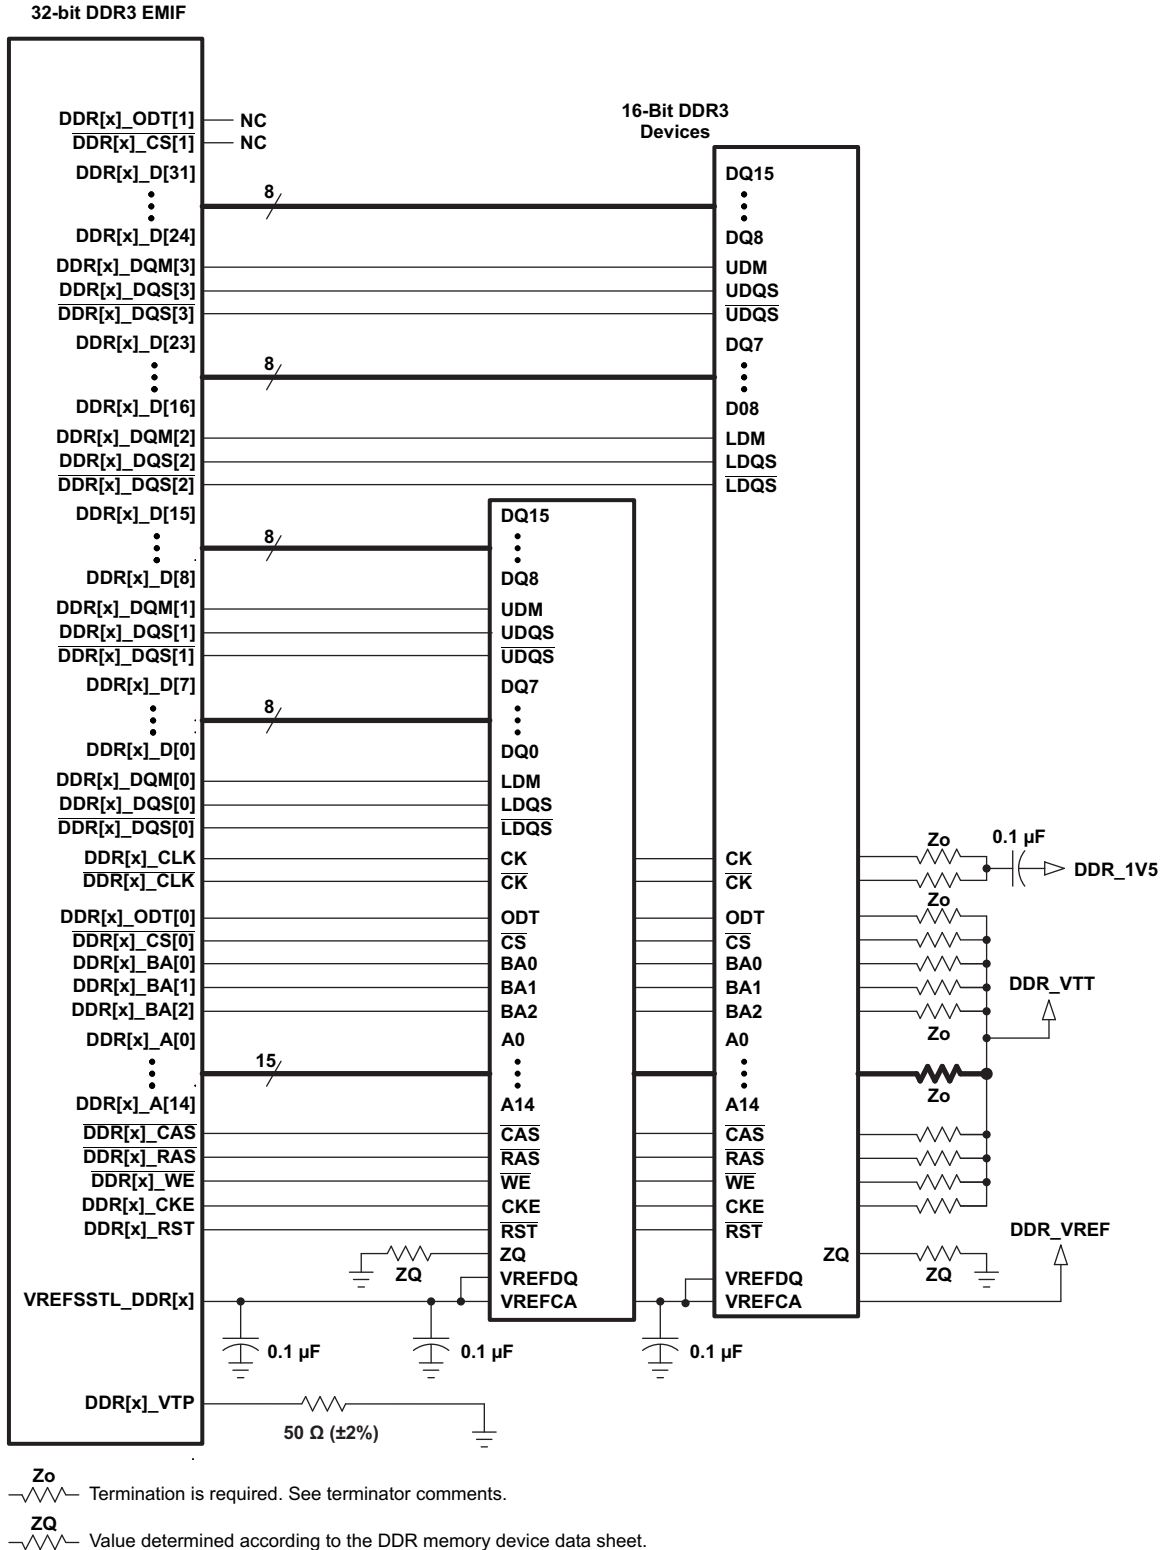
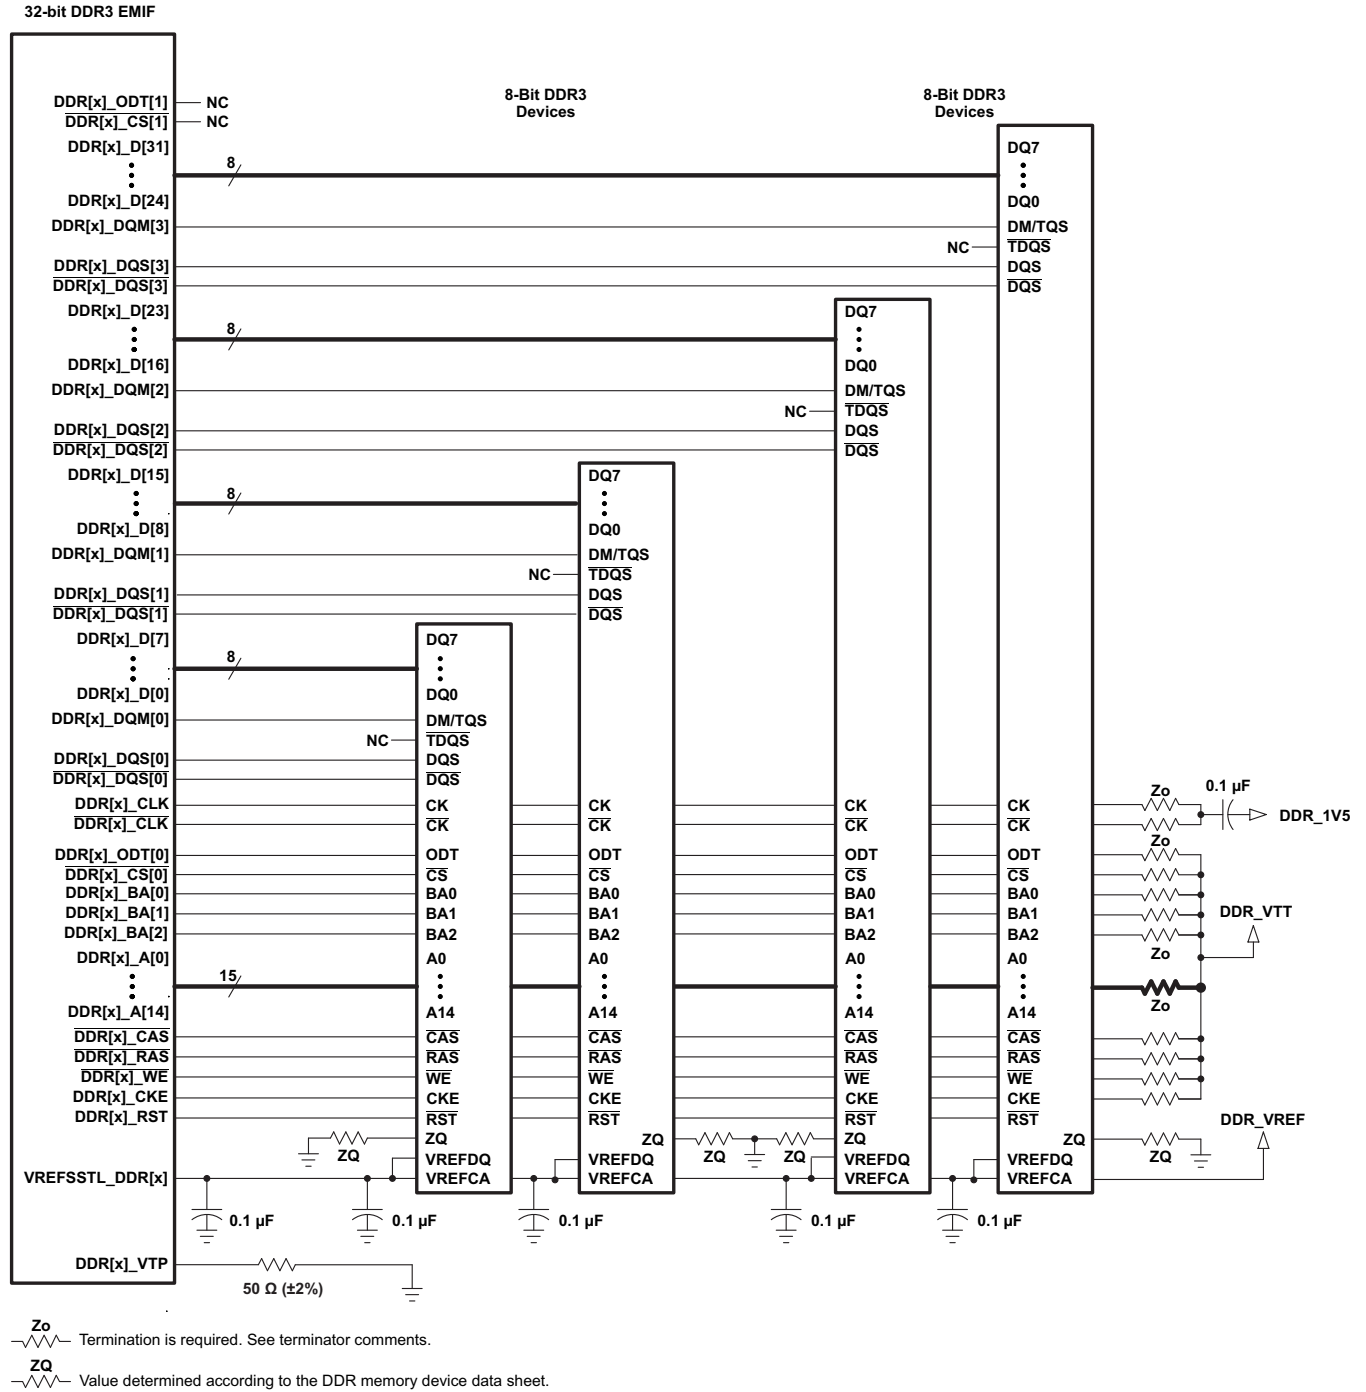

Figure 9-54. 32-Bit, One-Bank DDR3 Interface Schematic Using Two 16-Bit DDR3 Devices
Figure 9-55. 32-Bit, One-Bank DDR3 Interface Schematic Using Four 8-Bit DDR3 Devices
The DDR3 interface schematic varies, depending upon the width of the DDR3 devices used and the width of the bus used (16 or 32 bits). General connectivity is straightforward and very similar. 16-bit DDR devices look like two 8-bit devices. Figure 9-54 and Figure 9-55 show the schematic connections for 32-bit interfaces using x16 and x8 devices.
(1) DDR3 speed grade depends on desired clock rate. Data rate is 2x the clock rate. For DDR3-800, the clock rate is 400 MHz.
(2) DDR3 devices with speed grades up to DDR3-1600 are supported; however, max clock rate will still be limited to 533 MHz as stated in *Switching Characteristics Over Recommended Operating Conditions for DDR3 Memory Controller*.
(3) For valid DDR3 device configurations and device counts, see Section 9.13.4.2.4, Figure 9-54, and Figure 9-55.